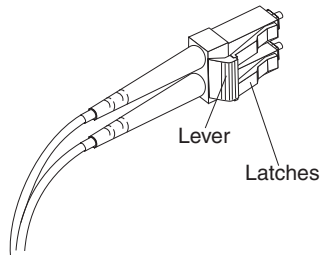

Figure 14. LC-LS Fibre Channel Cable lever and latches
1. On the end of the cable that connects into the LC connector end of the LC-SC cable adapter, press down and hold the lever to release the latches. Figure 14 shows the location of the lever and latches.